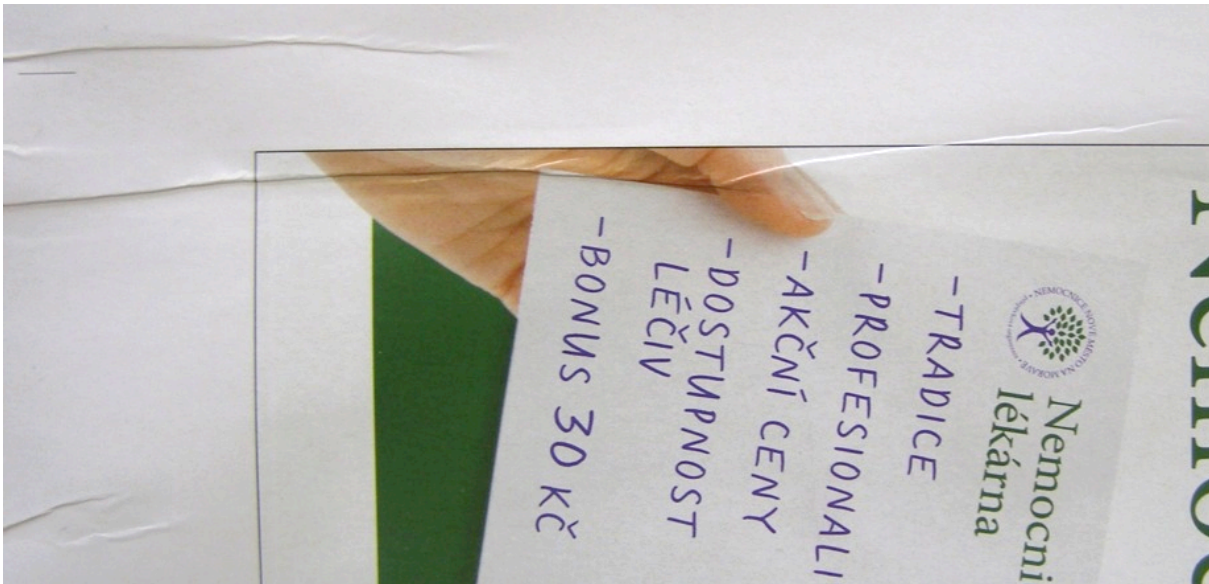
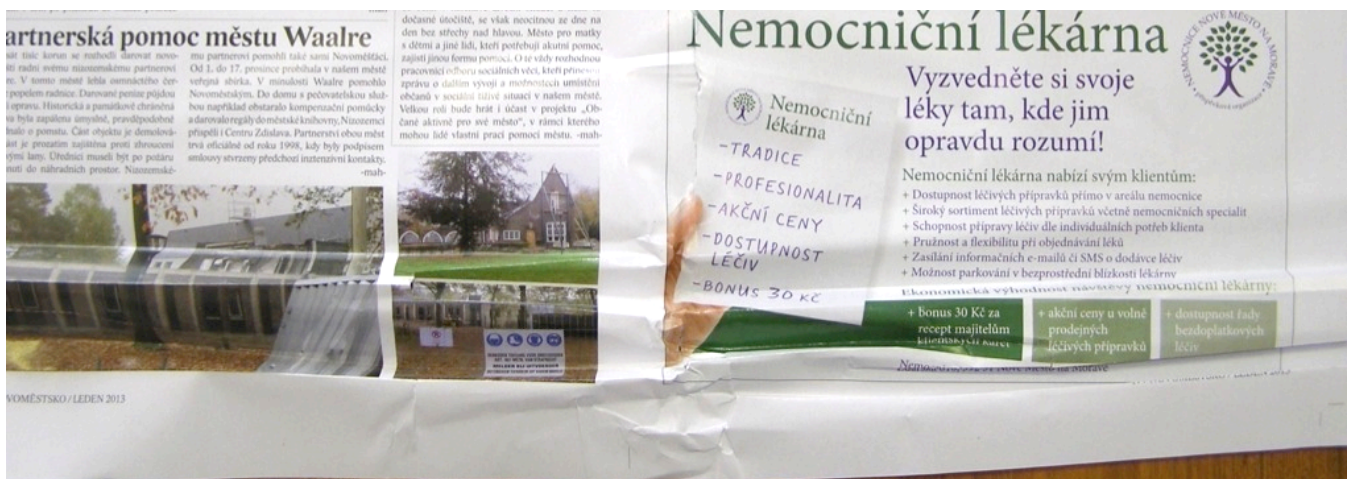

Fig. 31: Example of crinkled paper 1
Fig. 32: Example of crinkled paper 2
- The paper gets crinkled, especially paper of lower paper grammage, because there is too much thrust of the feeding system on paper during feeding into the machine fig. 31 and fig. 32.